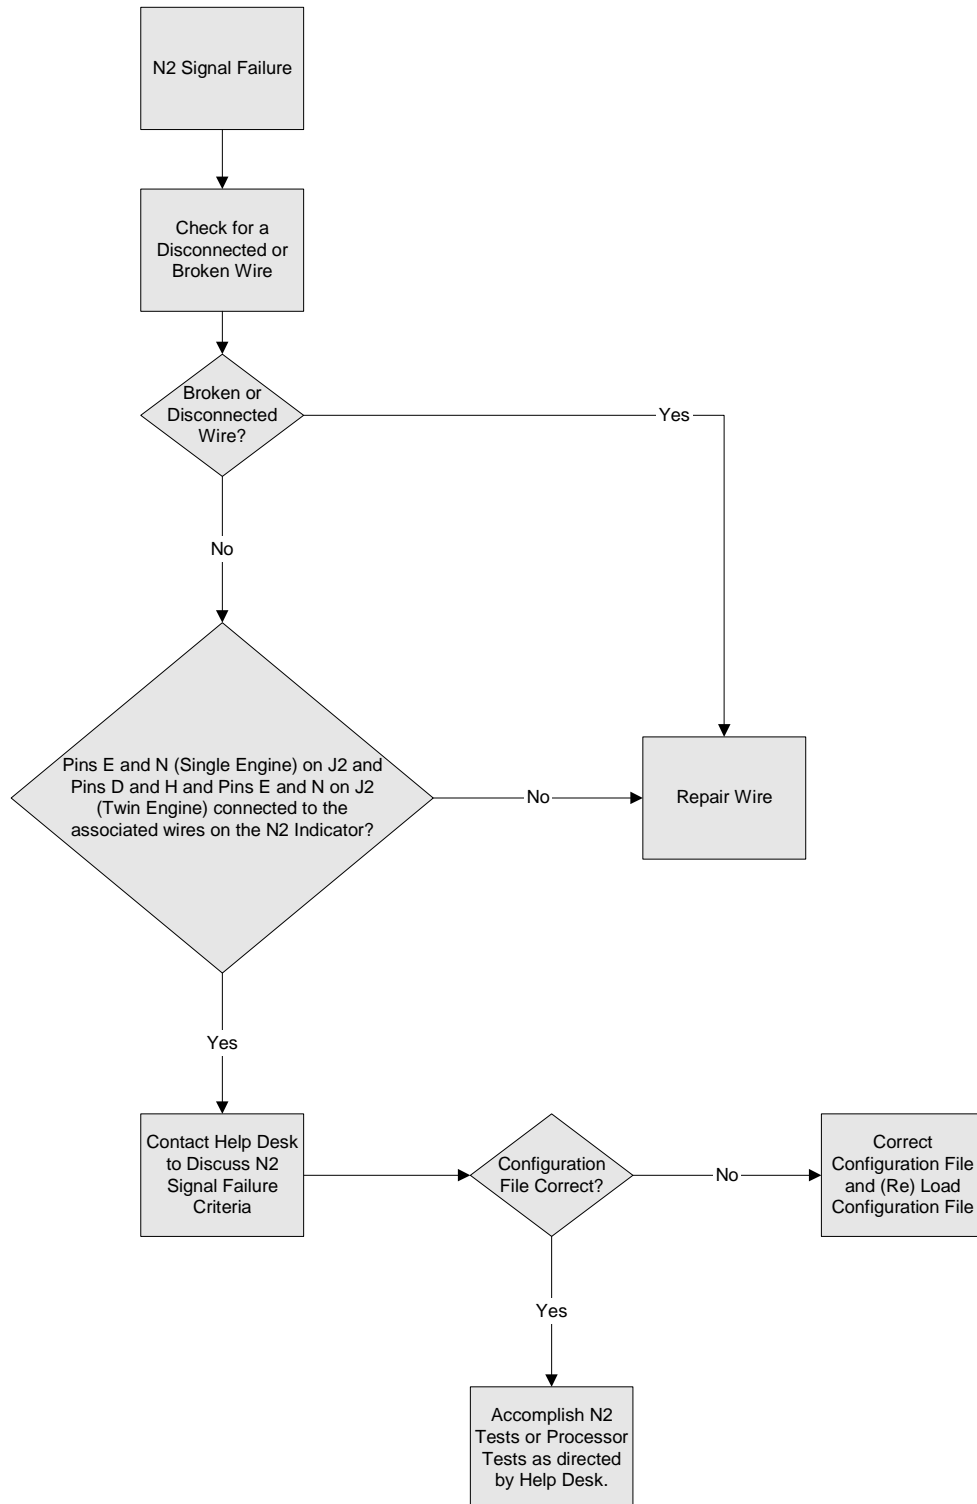

Figure 34: N2 (Np) Signal Failure Troubleshooting
- a. Signal Failure – Refer to Figure 34